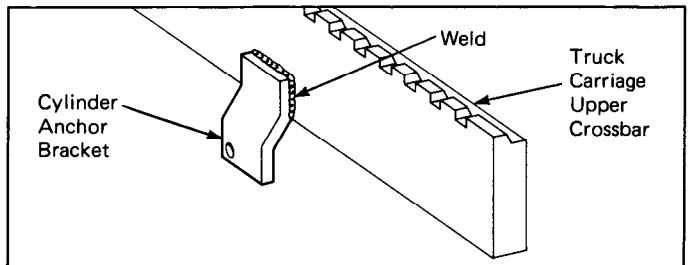

Figure 15. Weld the Top and Sides of Anchor Bracket
3. Position the cylinder anchor bracket on the marks and weld the bracket in place using AWS E7018 rod. Pre-heat to 300°–350° F. and weld the sides and top with 0.40 inch fillet weld. See Figure 15.